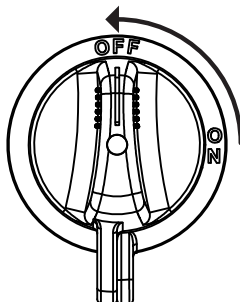

Figure 175. Battery Switch (OFF)
11. Wait at least two minutes to allow the DEF system to purge, then place the **Battery switch** (Figure 175) in the **OFF** position.